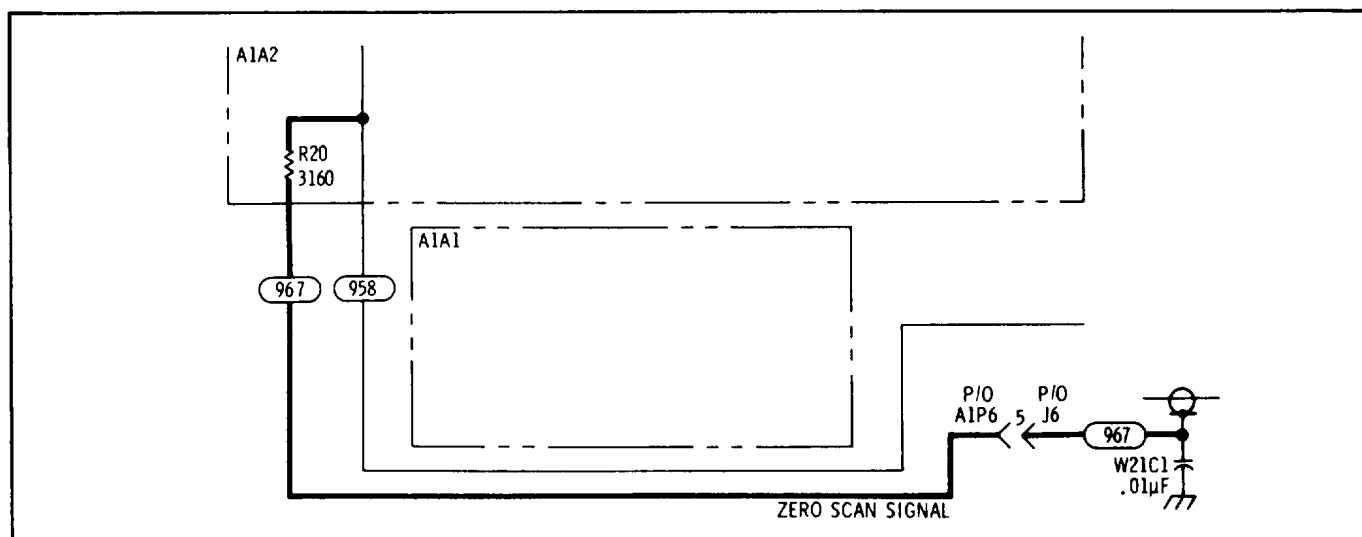

Figure 7-9. Partial Schematic of Figure 8-65, Zero Scan Signal Line to A1A2 (P/O Change E)
Add resistor A1A2 R20 and Zero Scan Signal line (967) between shield of cable W21 and (958) line as shown in heavy lines in the partial schematic, Figure 7-9.